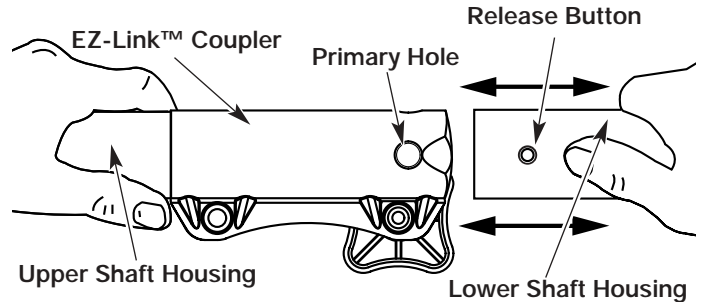

Fig. 20
3. While firmly holding the upper shaft housing, pull the cutting attachment or add-on straight out of the EZ-Link™ coupler (Fig. 20).
2. While firmly holding the add-on, push it straight into the EZ-Link™ coupler (Fig. 20).
CAUTION: Lock the release button in the primary hole (Fig. 20) and securely tighten the knob before operating this unit.